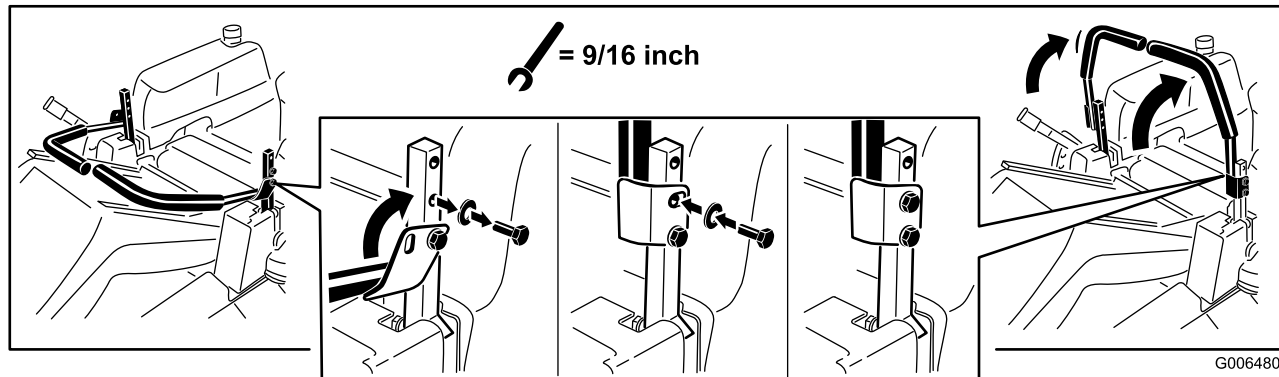

Figure 1
1. Remove the upper bolt ($3/8 \times 1$ inch) and washer; loosen the lower bolt ($3/8 \times 1$ inch) as shown in Figure 1. Raise the motion control levers.
2. Align the holes in the motion control lever with the holes in the control arm shaft and install the bolt and washer removed previously (Figure 1). Hand tighten all fasteners. Repeat this for both controls levers.